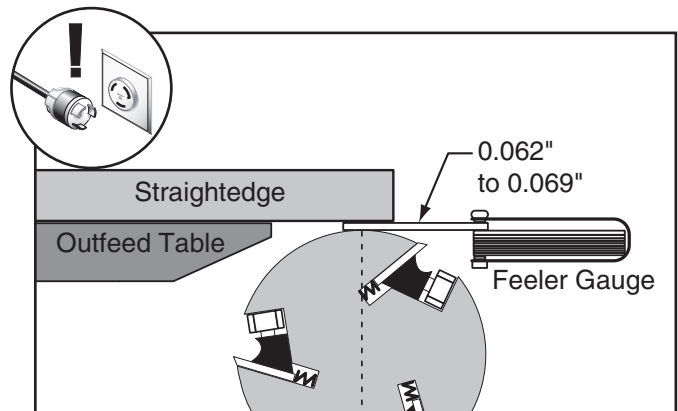

Figure 53. Using feeler gauge to check outfeed table-cutterhead height.
4. Try to fit a feeler gauge or combination of feeler gauges 0.062" to 0.069" between the bottom of the ruler and the cutterhead body as shown in **Figure 53**.